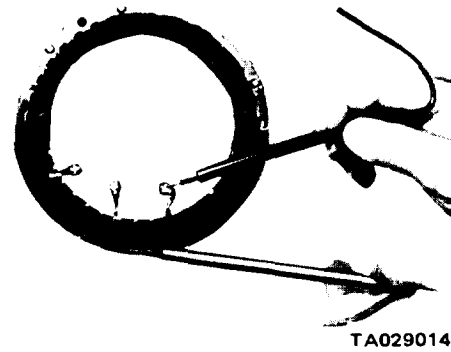

Figure 14-5. Testing Stator for Ground.
(1) Press one ohmmeter test probe firmly onto any pin in the stator frame (figure 14-5). Be sure the varnish has been removed so that the pin is bare.